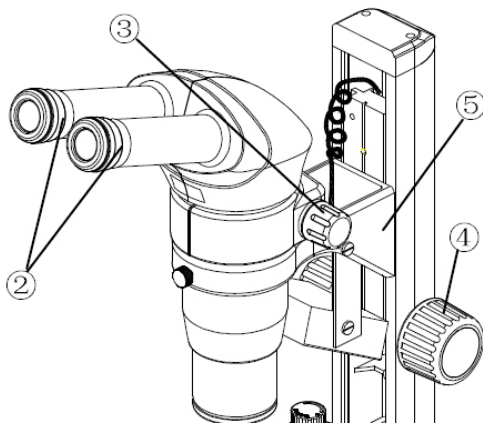

Fig.11
5.1.2 Adjusting diopter ring (Fig.11)